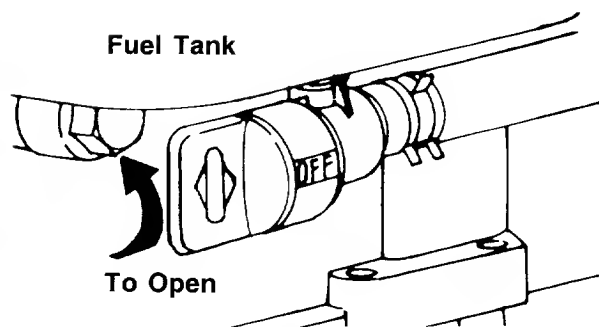

FIGURE 11.
4. **Deluxe Briggs and Stratton engines:** Open fuel shut-off valve. See figure 11.